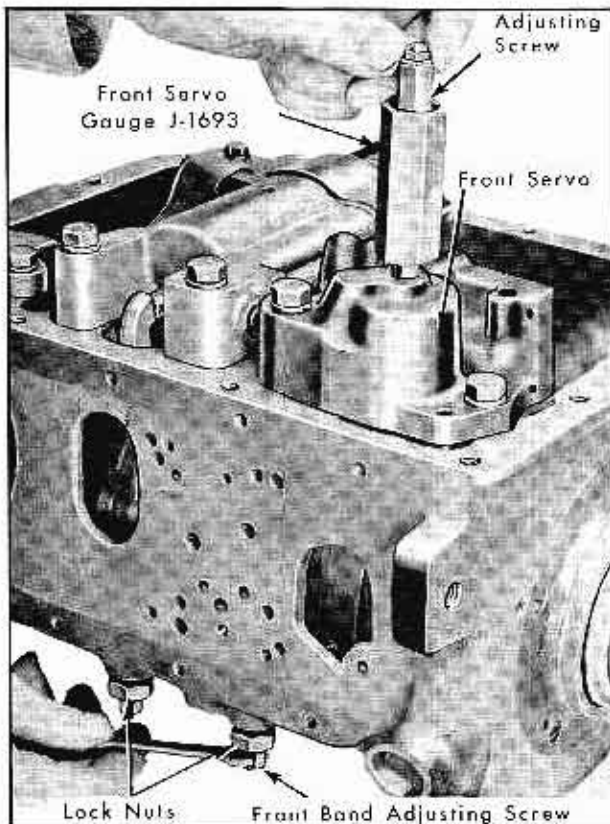

Fig. 14-9 Adjusting Front Band
3. Remove the pipe plug from front servo. Loosen "hex" adjusting screw of Gage No. J-1693, until approximately 1/8" of threads are exposed above gage body. Install gage, tightening by HAND ONLY. Fig. 14-9.